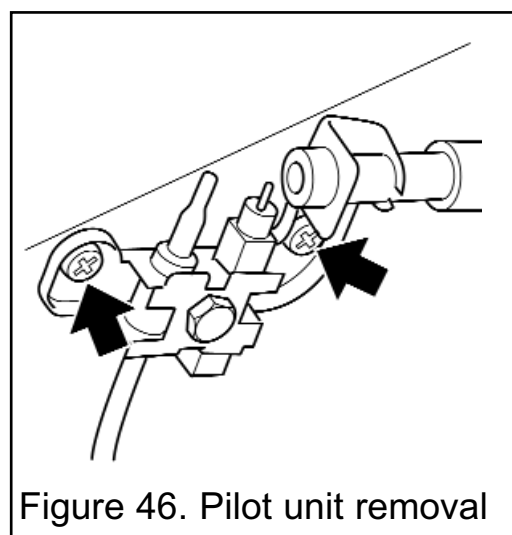

Figure 46. Pilot unit removal
5. Remove the two screws securing the pilot unit (See figure 46).